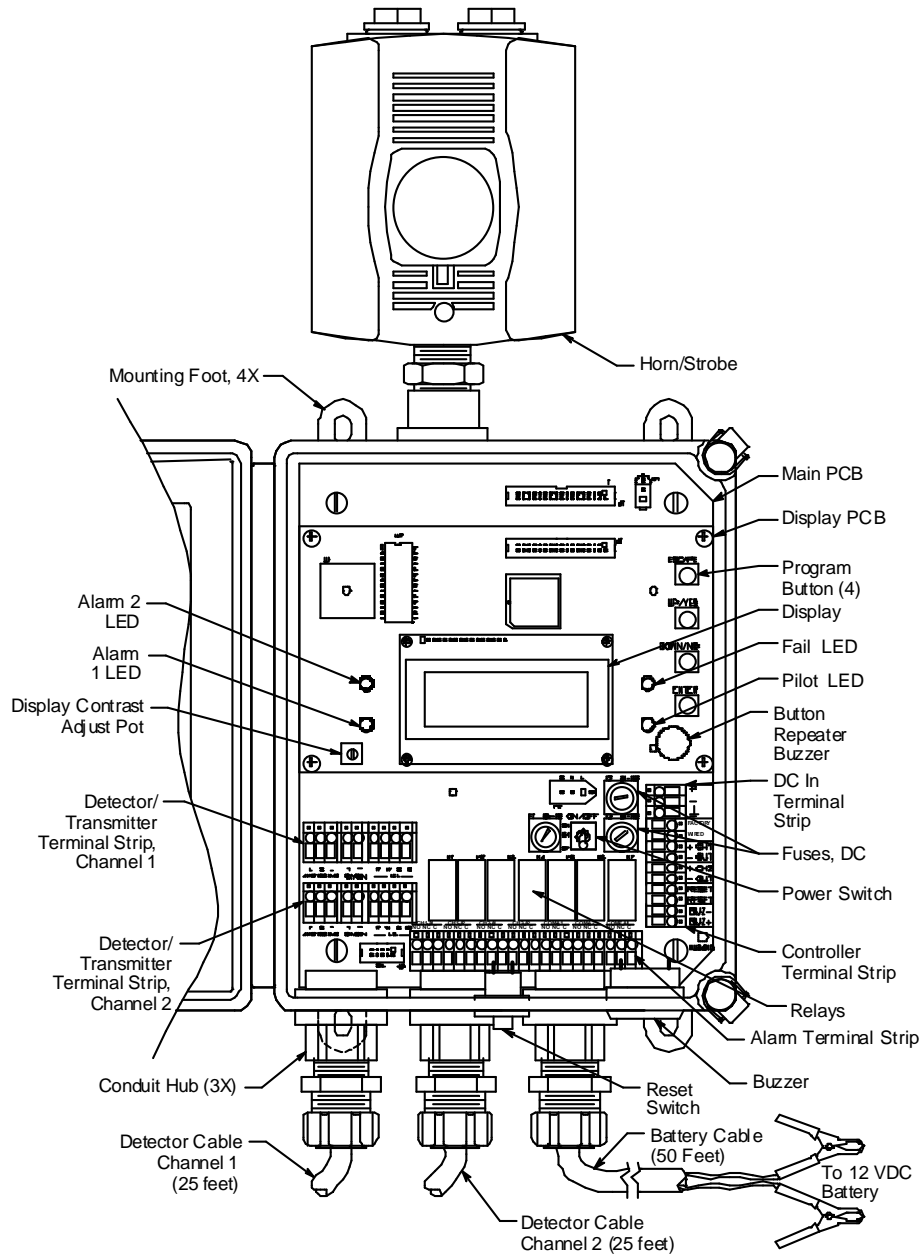

Figure 1. Beacon 200 Rig Monitor Component Location
- **Detector/Transmitter Terminal Strips.** Two detector/transmitter terminal strips are located near the bottom left corner of the main circuit board (see Figure 1). These two 9-point terminal strips facilitate wiring connections to the detectors. Only one detector head at a time may be wired per channel. The top terminal strip is for channel 1 and the bottom terminal strip is for channel 2. The LEL detectors are factory wired to these terminal strips.
- **Alarm Terminal Strip.** The alarm terminal strip is located along the bottom edge of the main circuit board (see Figure 1). This 21-point terminal strips facilitates wiring connections to external alarm devices (horn, strobe, etc.). Terminals are provided for individual channels as well as common alarm relay contacts. The horn/strobe is factory wired to this terminal strip.
- **Controller Terminal Strip.** The 10-point controller terminal strip is near the lower right edge of the main circuit board (see Figure 1). The controller terminal strip facilitates various internal and external wiring connections. Table 3 lists the function of each terminal.
- **DC In Terminal Strip.** The DC in terminal strip is a 3-point terminal strip located above the controller terminal strip (see Figure 1). It facilitates wiring from the 12 VDC battery. The 50 foot battery cable is factory wired to this terminal strip. Table 4 lists the function of each terminal.
- **Channel relays.** The four channel relays are above the alarm terminal strip (see Figure 1). These relays are dedicated to specific channels and alarm levels.
- **Common relays.** The three common relays, alarm 1, alarm 2, and fail, are to the left of the controller terminal strip (see Figure 1). These relays are common for both channels.
The power switch is located above the relays and to the left of the DC fuses (see Figure 1). The power switch turns the incoming DC power source on and off at the Rig Monitor. When the switch is up, the power switch is on.